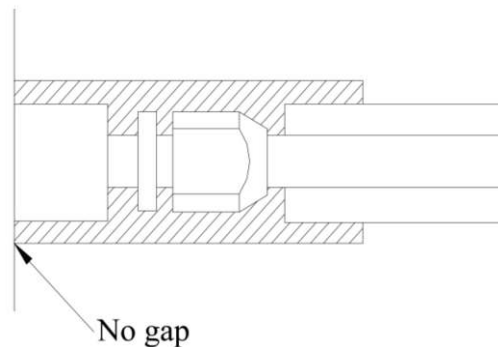

Fig.19
- b. The joints of the indoor unit should be wrapped with the insulating material and no gas is allowed on the joint of the indoor unit, as shown in Fig.19.